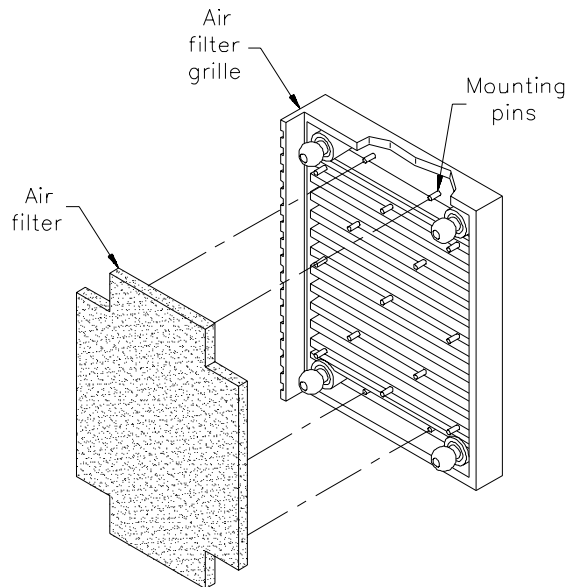

Figure 5-4 Replacing the air filter inside the air filter grille
2. Remove the air filter from inside of the air filter grille (see Figure 5-4).